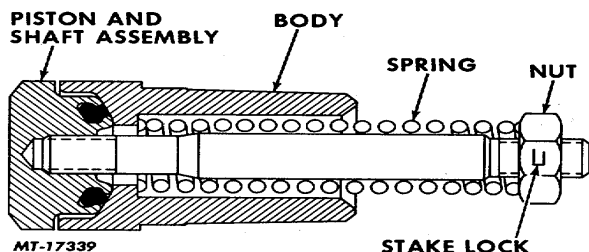

Fig. 2 Sectional View of Piston Type Safety Valve
- The safety valve is a piston type valve (Fig. 2). The piston is equipped with an O ring type seal which seats in the body of the valve.